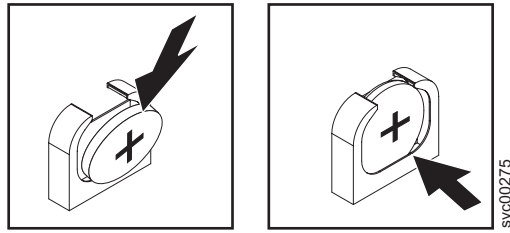

Figure 177. SAN Volume Controller 2145-8G4 CMOS battery holder
- b. Press the battery down into the socket until it clicks into place. Make sure that the battery clip holds the battery securely, as shown in Figure 177 on page 507.